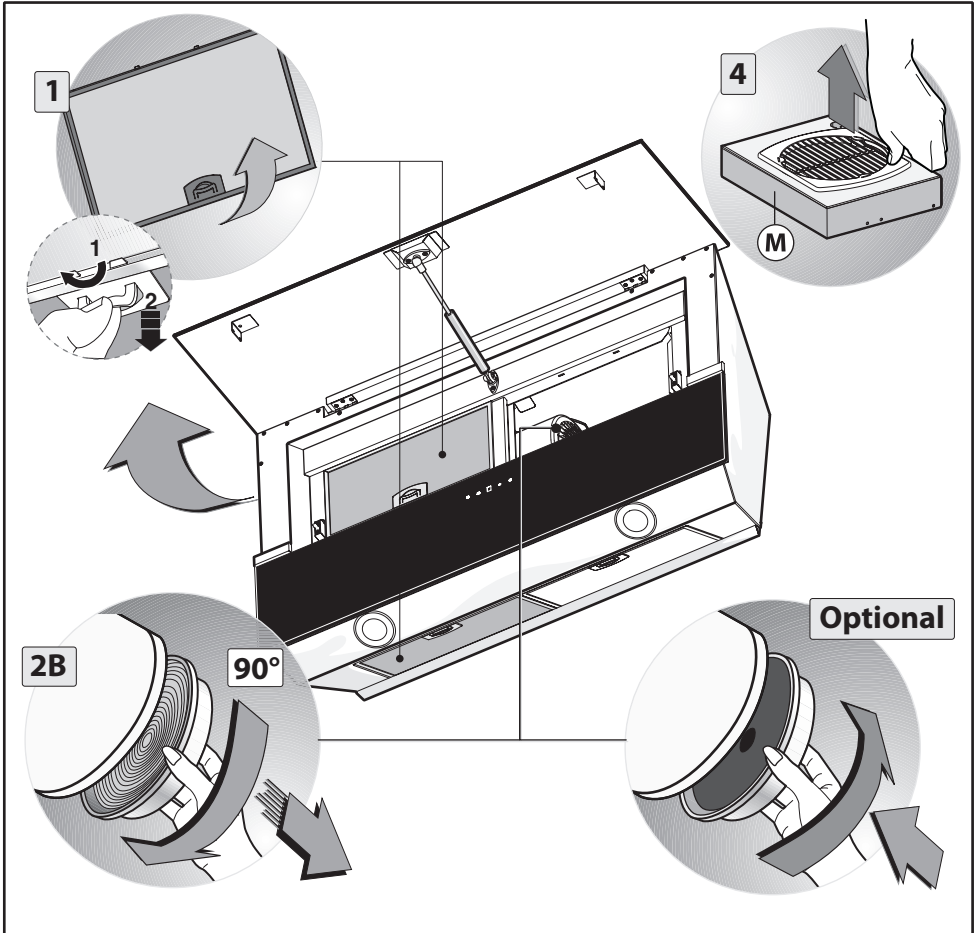

Fig.2
1. Remove the **anti-grease filter** by pulling the handle, as shown in figure 2 - phase 1.
2. If the product is equipped with activated charcoal **filters (B)**, remove them as shown in figure 2 - phase 2B
3. Unhook the small **cupola M** as shown in figure 2 - phase 4.